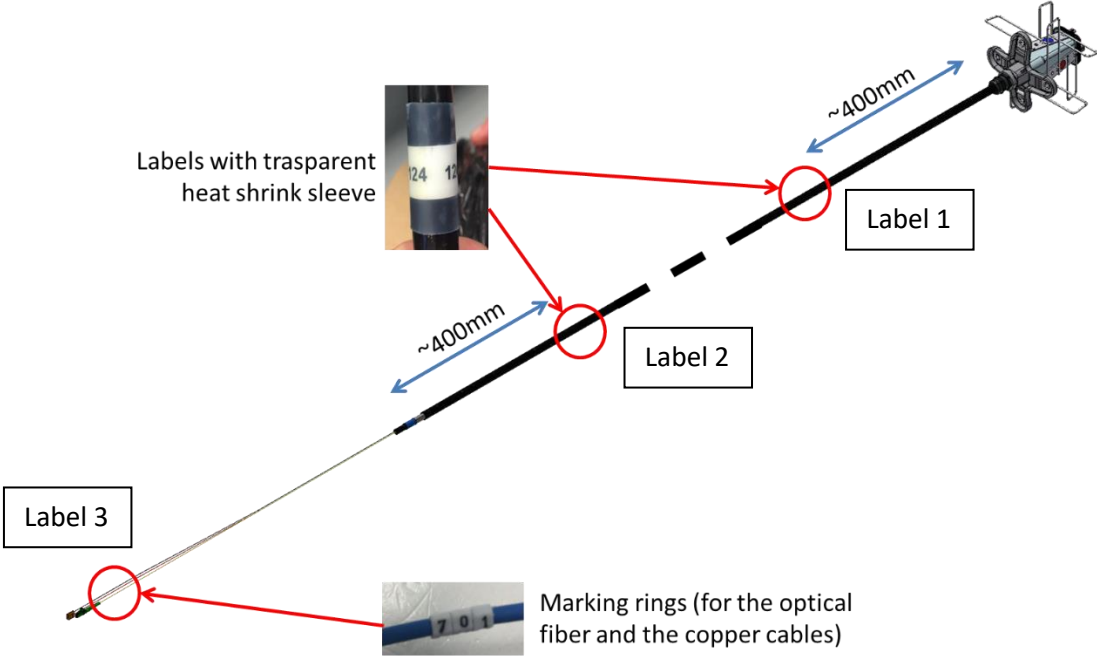
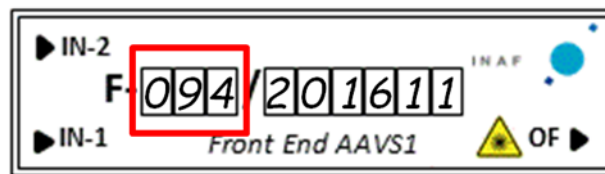

Figure 8: Hybrid cables label numbering.
Figure 9: FEM numbering.
| Figure 8: Hybrid cables label numbering..... | 11 |
| Figure 9: FEM numbering. | 12 |
13. Put the labels with the serial numbers, in the positions shown in Figure 8.
1. Labelling check: verification of the presence of the three labels on the HC showed in Figure 8 and matching the number with the FEM label (three digits in the red box in the Figure 9).